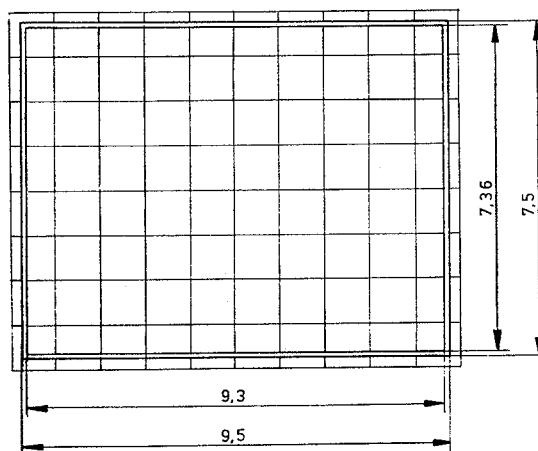

Fig. 3.8. Barrel and cushion distortion
- The displayed rectangle must fit between the lines indicated in Fig. 3.8.